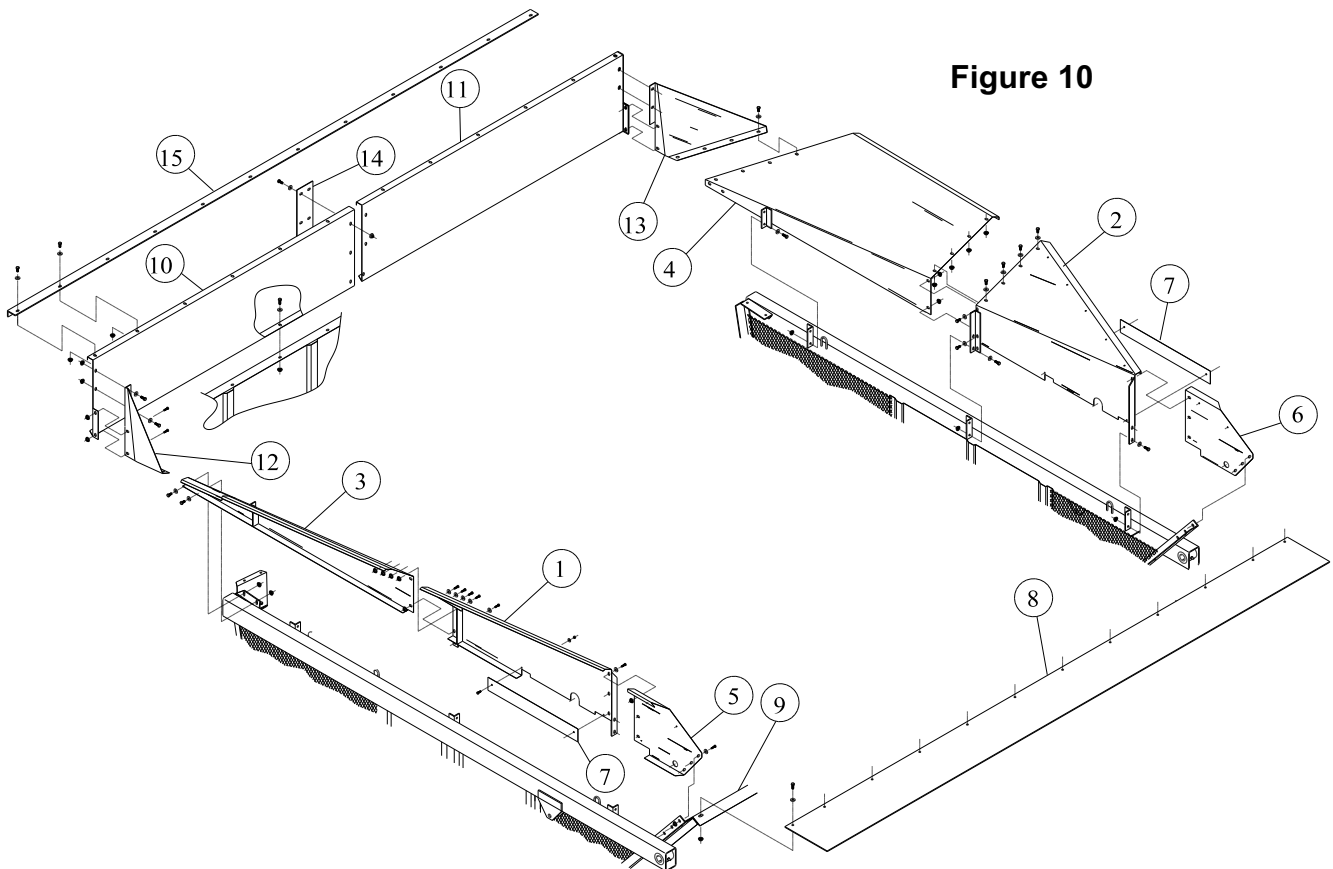

Figure 10
8. EXTENSION PANELS -Refer to Figure 10. Install the front and rear extension panels (Items 1 thru 6) to the Boll Buggy as shown using 1/2" x 1 1/4" bolts, flat washers, and flange lock nuts.
- 10.8 Assemble the chain dump extension sides (Item 15) by sliding the lower flange under the hydraulic cylinder mount (Item 14). The mounting angles on the inside of the extension panels should line up with the mounting angles on the inside of the Boll Buggy top end panels (Item 5). Loosely attach the extension panels to the mounting angles using 1/2" x 1 1/4" bolts, flat washers, and flange lock nuts. (The remaining chain dump extension sides attach exactly the same as the regular extension sides. STEPS 8 thru 8.5 -Figure 10, page 13.)